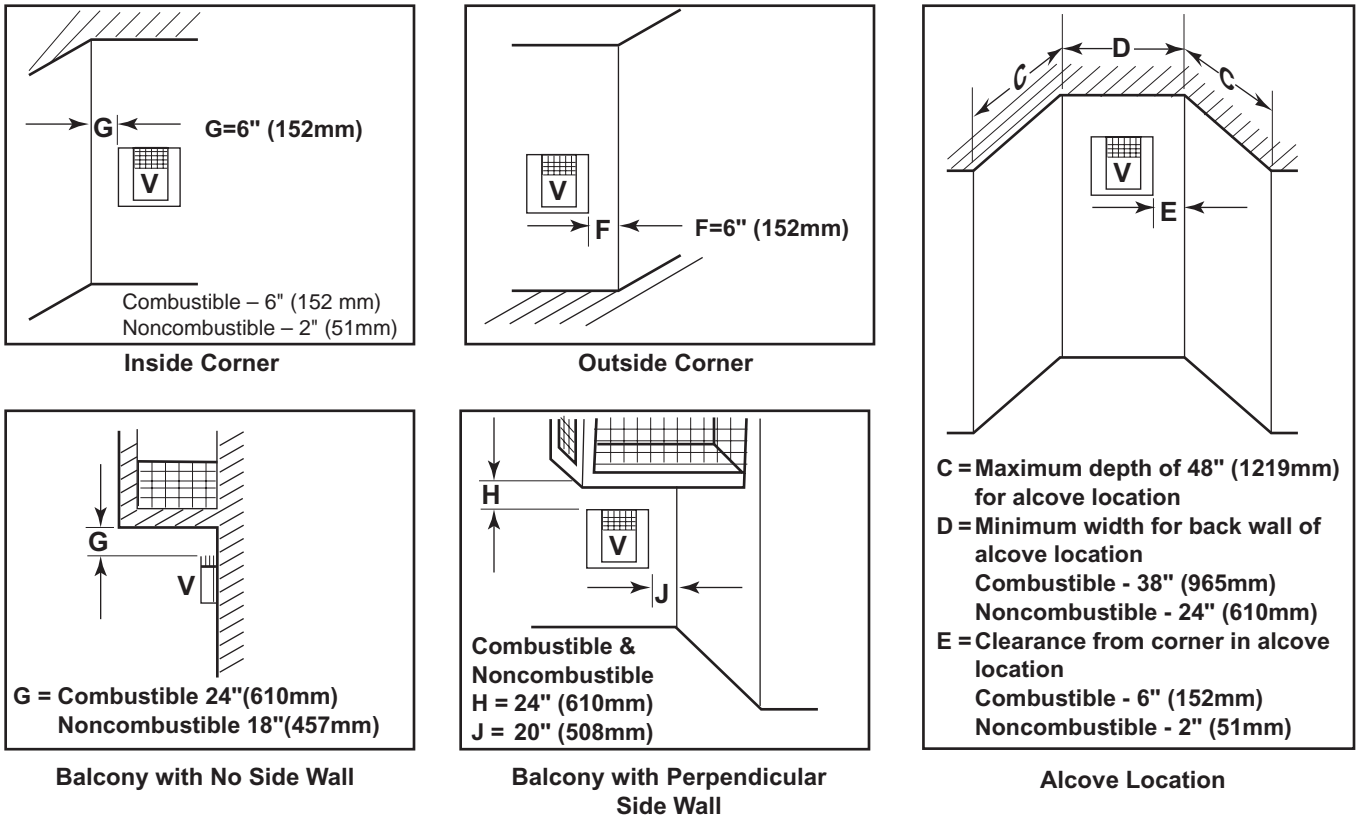

Figure 9 - Allowable Venting Chart
- D = Vertical clearance to ventilated soffit located above the terminal within a horizontal distance of two (2) feet (610mm) from the centerline of the terminal [18" (457mm) minimum].
- F = Clearance to an outside corner. *See Figure 9.*
- G = Clearance to an inside corner. *See Figure 9.*
- H = *Not to be installed above a gas meter/regulator assembly within three (3) feet (914mm) horizontally from the centerline of the regulator.